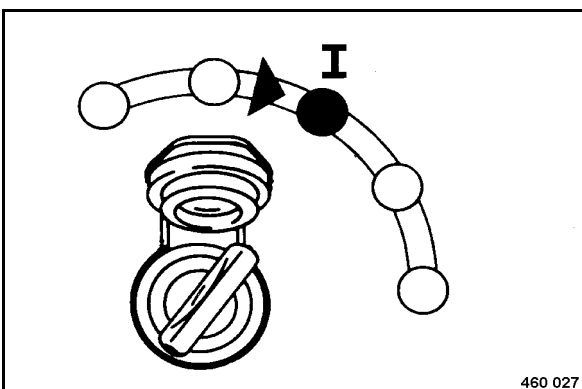

Fig. 49
- Turn the ignition key (Fig. 49) to position "I".